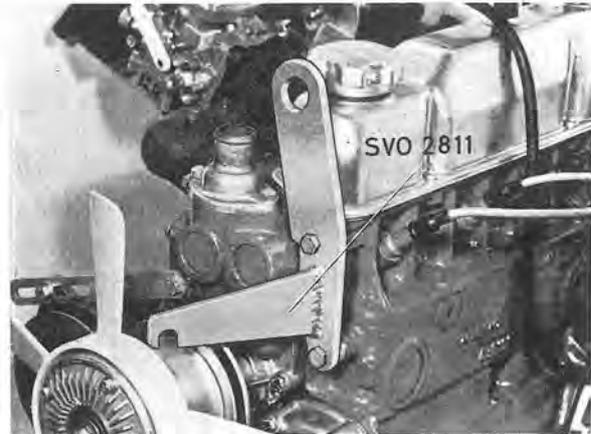

Fig. 2-9. Lifting lug SVO 2811 on engine front end
10. Fit lifting lug SVO 2811 to the front end of the engine as shown in Fig. 2-9 and lifting arm SVO 2812 on the engine rear end as shown in Fig. 2-10. Prop up the vehicle with four blocks.